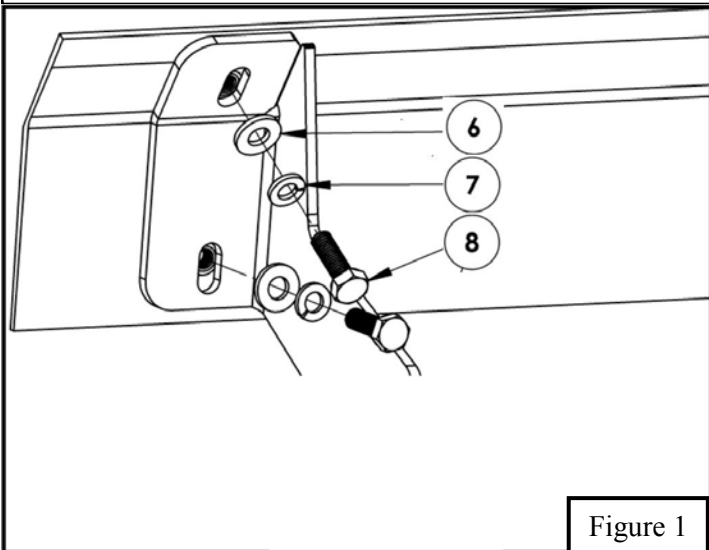

Figure 1
2. Start installation on either side of the vehicle. Locate mounting locations with factory threaded holes with screws or caps installed in them. Remove factory screws or caps from threaded holes, factory screws will not be used again. Locate (1) Front Mounting Bracket and loosely install it to the front mounting location on the rocker panel using (2) M8 hex head cap screw, (2) M8 split lock washer, and (2) M8 flat washer (Items 6-8). Locate the Center/Rear Mounting bracket (Items 3 & 4) and loosely secure in the correct mounting locations on the rocker panel. Loosely install using the provided M8 hardware (Items 6-8). **See Figure. 1.** (NOTE: See page 3 for bracket orientation)